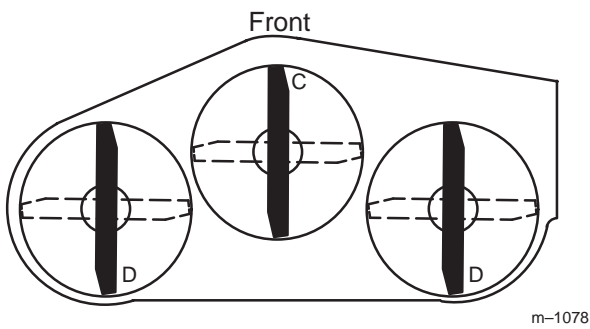
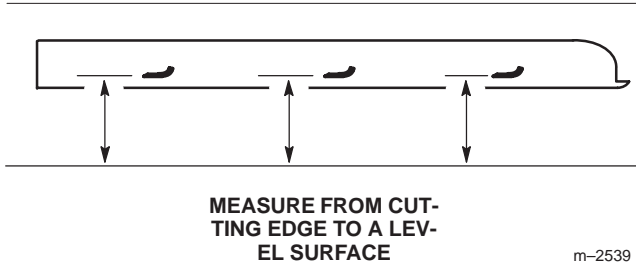

Figure 18
Figure 19
2. Position the blades front-to-rear (Fig. 18). Measure at **C** and **D** locations (Fig. 18) from a level surface to the cutting edge of the blades (Fig. 19).